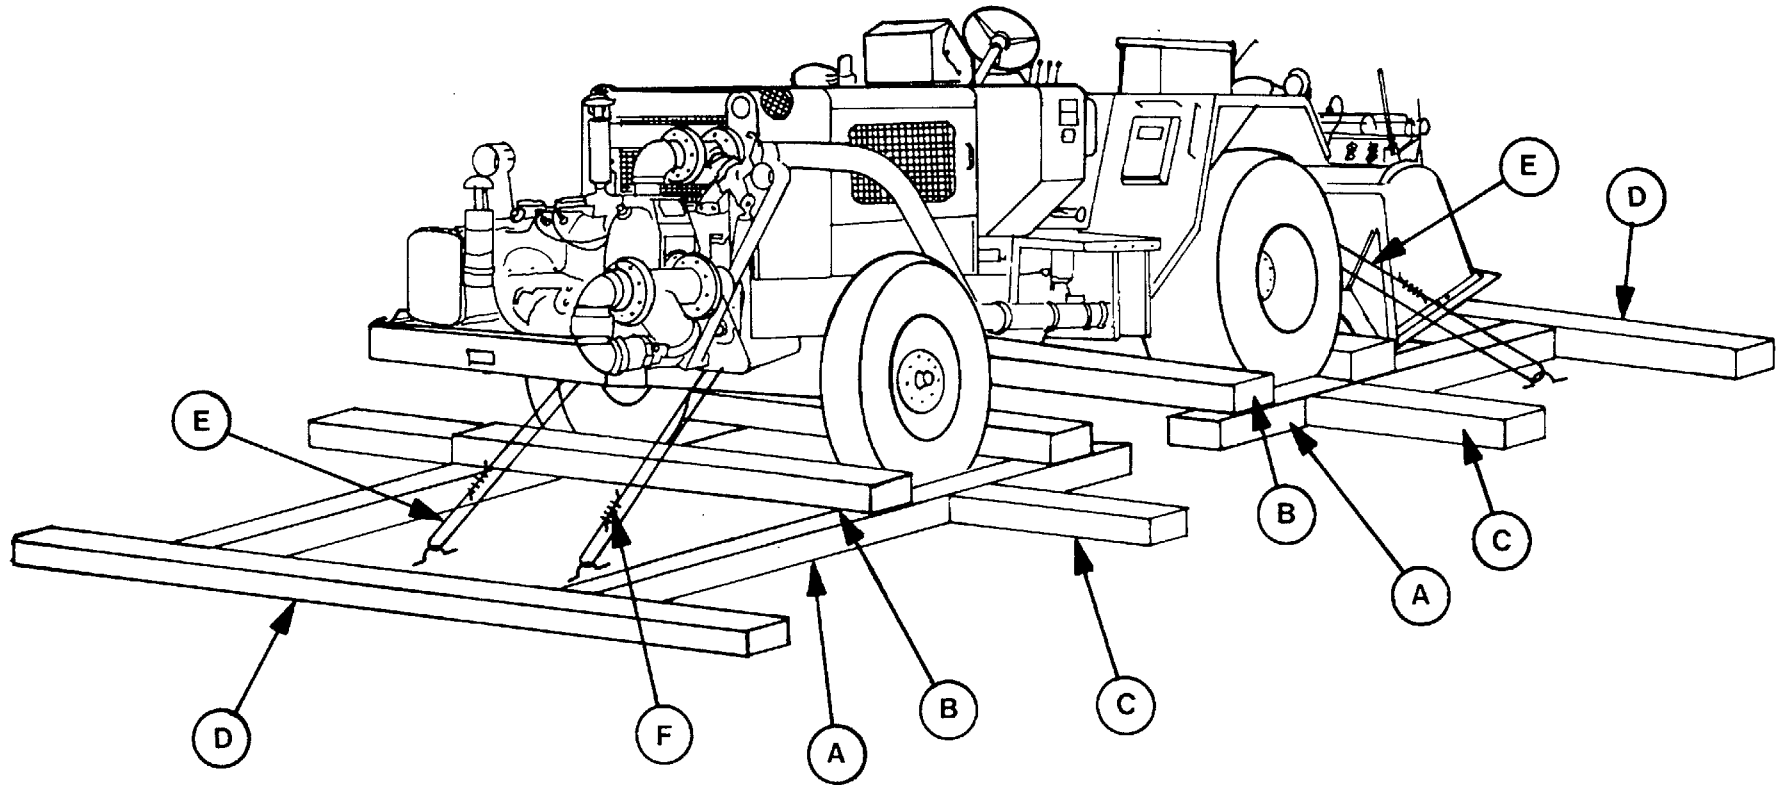

Figure 6-2. Typical blocking and tiedown of a M076 rotary tiller mixer in a general cargo vessel.
(1) Table 6-1 is the approximate bill of materials for blocking and tiedown of a rotary tiller mixer in the hold of a general cargo vessel. Required amounts will vary as to type of vessel configuration and location aboard the vessel.
(2) See figure 6-2 for typical blocking and tiedown details of a rotary tiller mixer in the hold of a general cargo vessel.
(3) Table 6-2 provides data concerning the application of materials required to restrain the vehicle.
**Table 6-1. Bill of Materials for Blocking and Tiedown of the Rotary Tiller Mixer in Hold of General Cargo Vessel (Fig 6-2)**
**Table 6-2. Application of Materials for Blocking and Tie-down of the Rotary Tiller Mixer in Hold of General Cargo Vessel (Fig 6-2)**